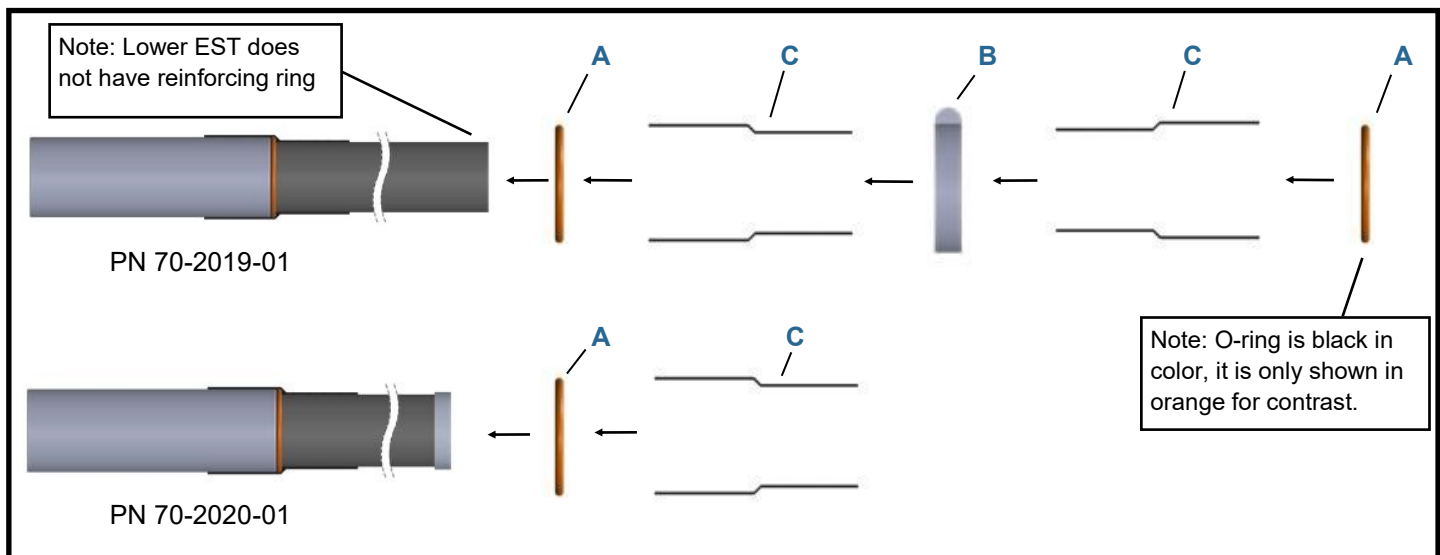

Figure 5.1
- Slide one O-ring from the end opposite to the aluminum coupler, and butt it against the coupler to make a seal on the joint (figure 5.1).